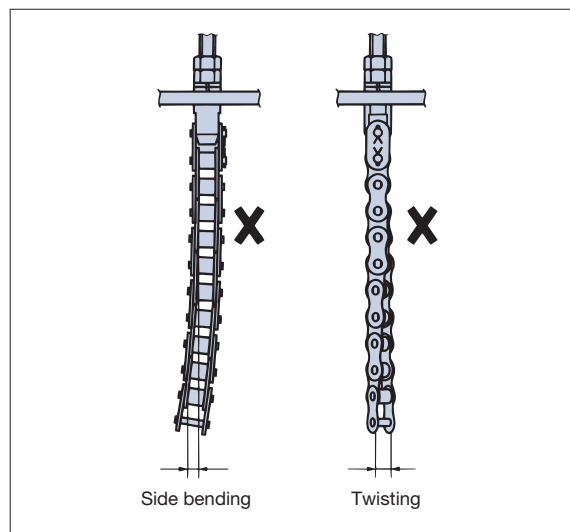

Fig. 32 Twisting of the roller chain
1. This should be carried out with the same requirements as for ordinary transmission shown in item 7.3.
4. Inspect for twisting and side bending of the roller chain. If partial twisting or side bending of the chain occurs, the complete roller chain should be replaced. (Fig. 32)